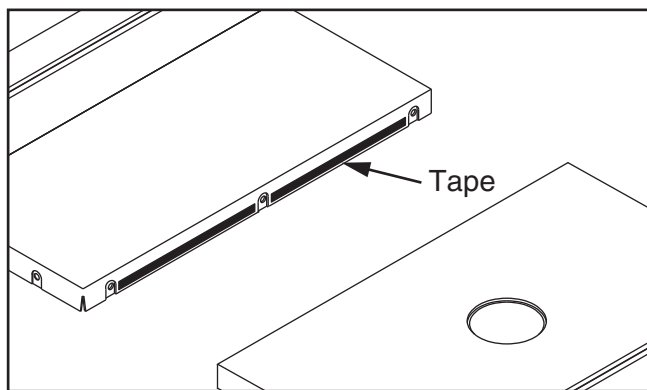

Figure 8. Using tape to shim router table up.
- If outside edge of router table wing tilts down, remove wing and place strips of masking tape along *bottom* edge of extension wing to shim router table up and even with table saw from side to side (see **Figure 8**).